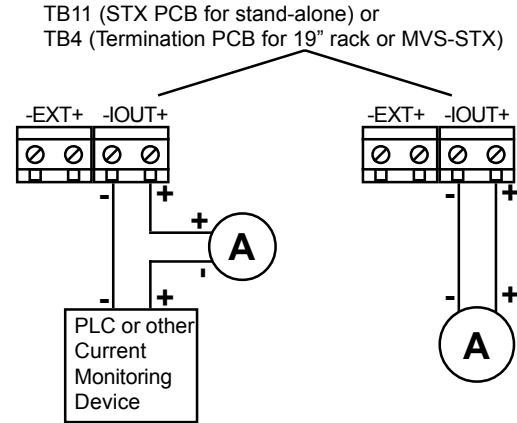

Figure E-1. Two Methods for Connecting Ammeter
1. See Figure E-1 and TI-SP.STX-02 (stand-alone), TI-SP.STX-03 (standard 19" rack), or TI-MVS.STX-01 (MVS-STX) in Appendix H.